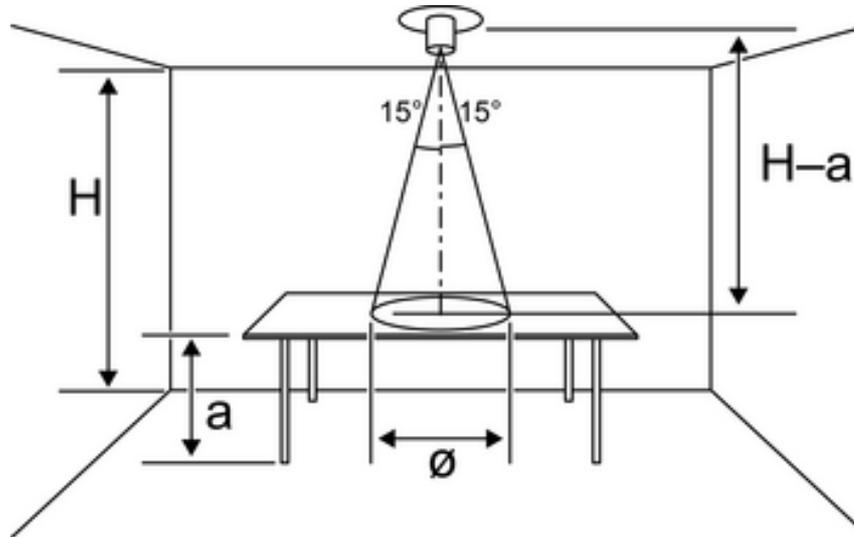

Figure 3: Rigid fibre-optic rod with straight incidence
- Install the brightness controller directly above the work surface on the room ceiling (Figure 3).
The controller is directly above the work surface (Figure 3).